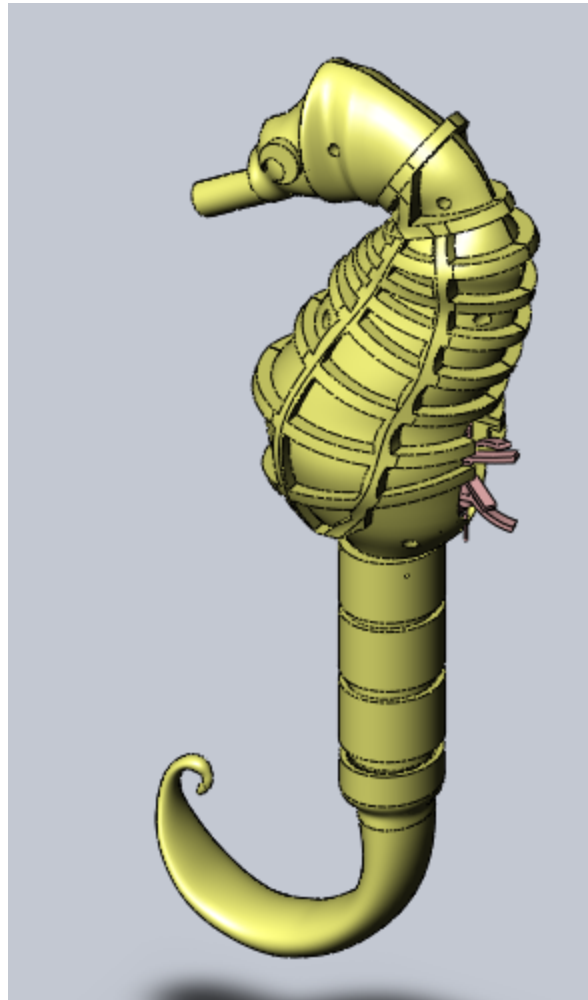

Figure 1 Isometric view of Bob's design
Our team designed and fabricated a rapid prototyped (RP), thermoplastic seahorse named Bob (Figure 1). The preliminary shape of the seahorse came from images of a lined seahorse (*Hippocampus hippocampus*). Each person then took primary responsibility of a certain part of the hippocampus (the author focused on head shell design). After the CAD files of Bob were printed, the resulting RP parts were coated with West Epoxy for added strength. Finally Bob was painted yellow and red to match the color of real seahorses.